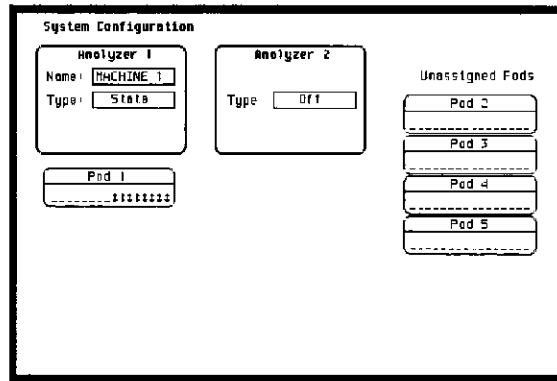

Figure 3-4. System Configuration for Data Test 1
- Assign the pod under test to Analyzer 1 in System Configuration as in previous test figure 3-4.